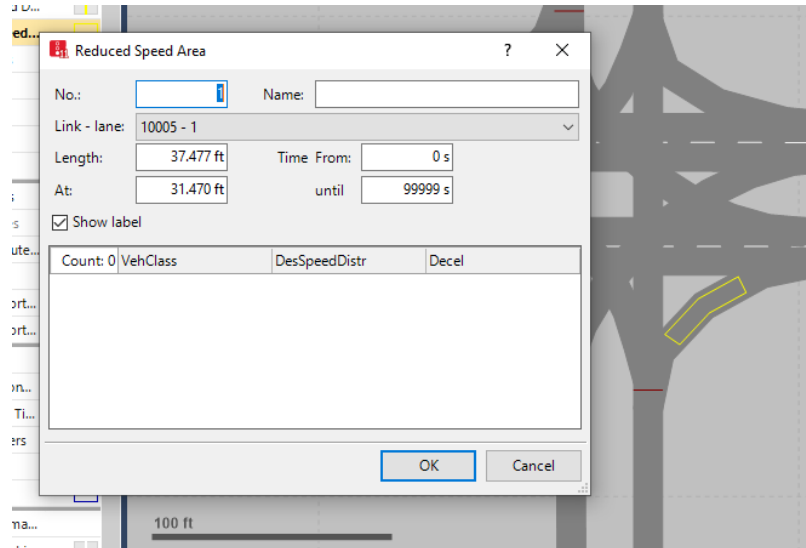

Figure 20: Buzz Blvd and Burdell Dr. NB right turn Reduced Speed Area
- step iv. Right click on the *connector* a few feet after it diverges from the Burdell Dr. link. Holding the right click button down drag the mouse to a few feet prior to the merge point with Buzz Blvd. You should see a box along the *connector* and the *Reduced Speed Area* pop-up window, Figure 20.